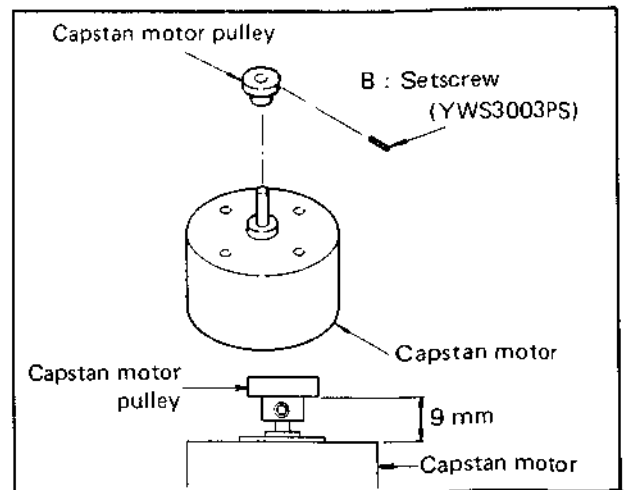

Fig. 4-42
2. Use a metric hex key to loosen setscrew B (Fig. 4-42) and remove the capstan motor pulley.
3. Install the pulley on the new motor as shown in Fig. 4-42. Press the motor shaft inward (to compensate for mechanical play) and mount the pulley with 9.0 mm spacing.